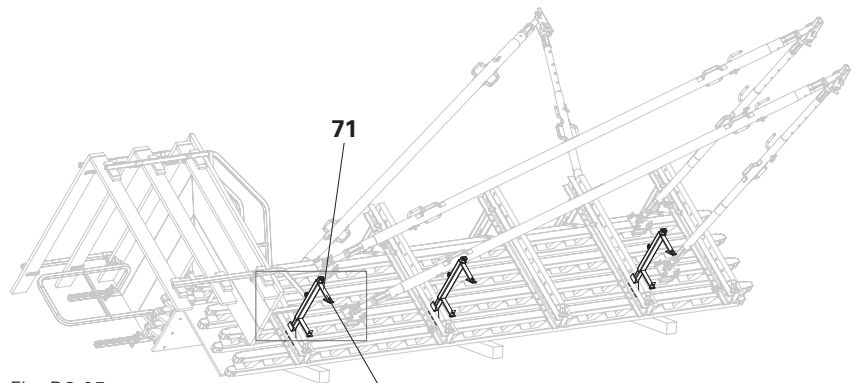
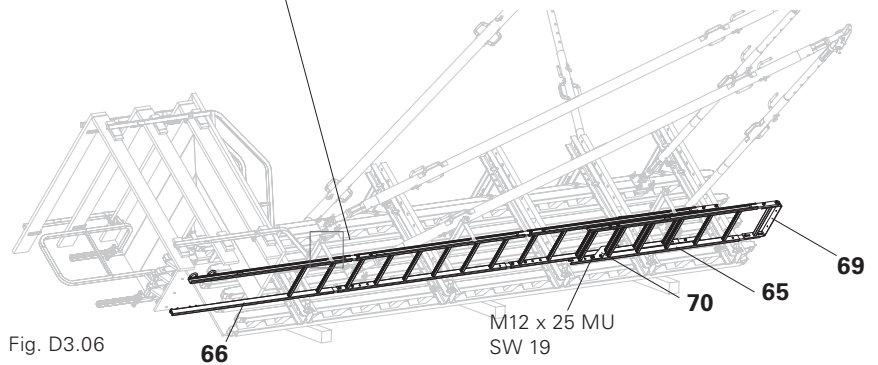

Fig. D3.05
Fig. D3.06
1. Place Ladder Connector VARIO (71) on the frame and fix by means of bolts in the element strut. (Fig. D3.05)
3. Connect End Ladder 180/2 (66) with Ladder 180/6 (65), M12 x 25 MU, SW 19. Depending on the height, additional Ladders 180/6 are mounted.
4. Mount Ladder Hooks (70) and Ladder Base (69) to the bottom-most ladder, SW 19. (Fig. D3.06)